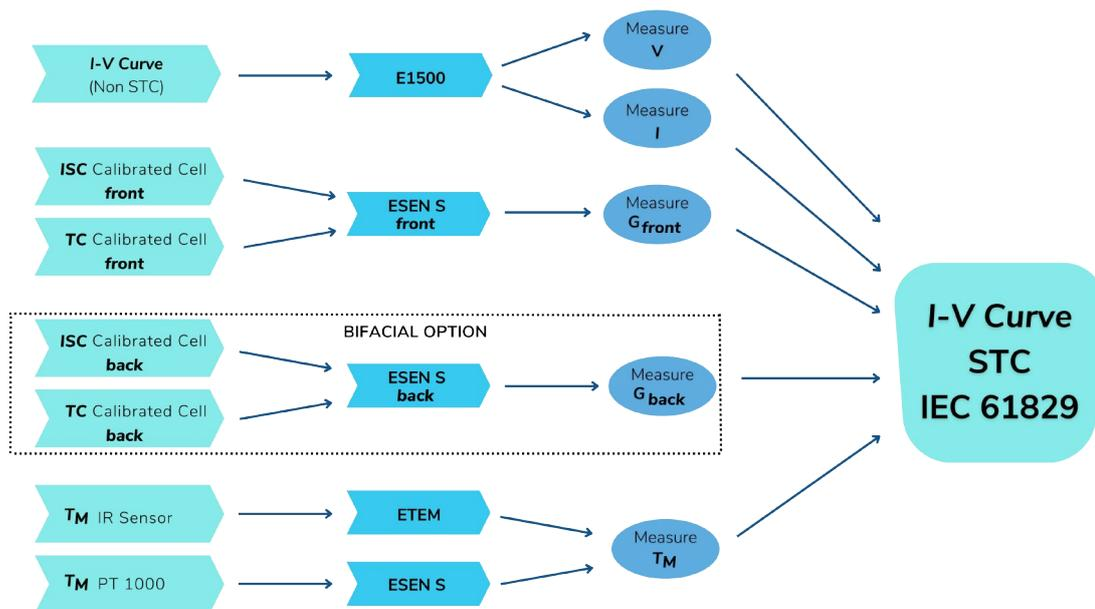

Figure 3.1: Illustration showing the measured quantities, the equipment used, and the procedures carried out to obtain the curve measured under STC conditions.
The E-1500 performs this extrapolation automatically according to the procedure described in IEC 61829 and based on measurements of irradiance, module temperature, and the I-V curve. To facilitate the measurement of these quantities, Entec Solar has devised a solution that involves using the E-1500 I-V curve tracer along with the E-Sens and E-Temp devices. Figure 3.1 illustrates the measured quantities and the processes carried out to obtain the I-V curve under STC conditions.
- IEC 61853-1 recommends measuring the temperature of a module at the three positions shown in Figure 3.1 and using the average of the three temperatures for extrapolation to STC. The E-1000 has been programmed to average up to three PT-1000 measurements taken with the E-Sens or to use the average with a user-selected number of points measured with the E-Temp.